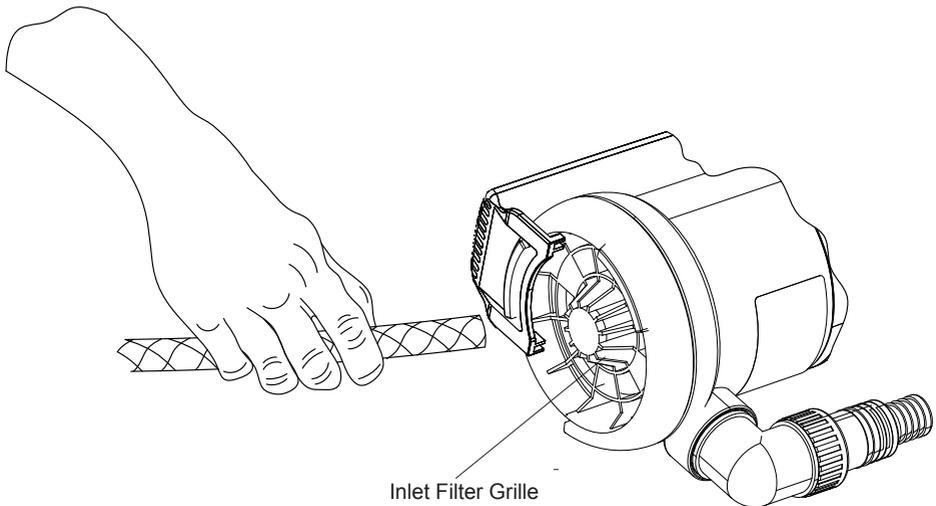

Fig. 10
- 3) Clean integral inlet filter grilles using water pressure from a hose pipe (Fig. 10).